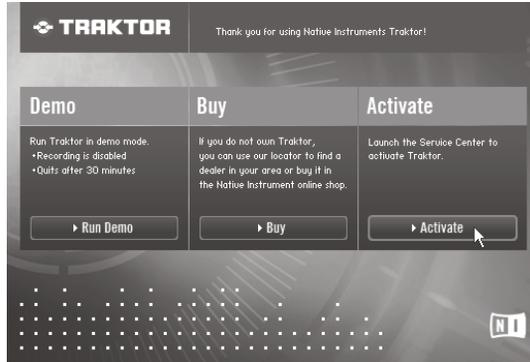

Figure 5.22
1. After launching Traktor LE, the following window will appear. Click **Activate**. (Figure 5.22)